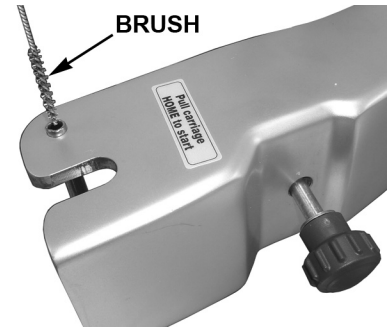

Fig. 9
- Clean the Product Tray pin with the brush as shown (Fig. 9).